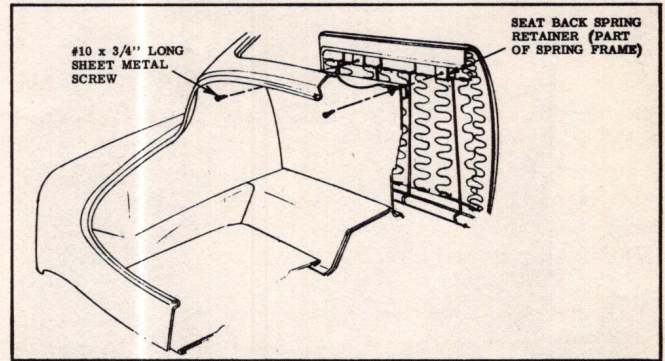

Fig. 6 Locating Sheet Metal Screws
3. Drill holes through the flange of the rear compartment shelf and the metal retainers in the seat back in each of the three locations for #10 sheet metal screws. See Fig. 6.